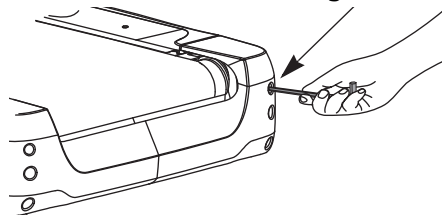

Figure 1
1. Locate the adjusting bolt in the right side end cap at the rear corner of the treadmill (Figure 1).